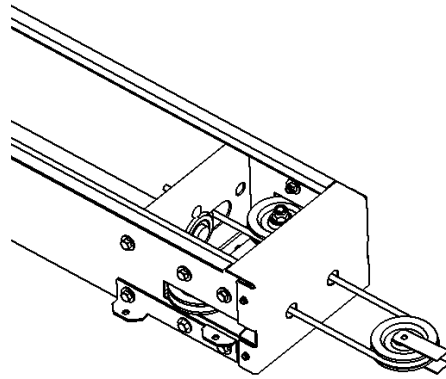

Figure 16
9. If mounting machine horizontally in order to pull cables straight from end of machine, remove (2) plastic plugs found at top of machine to access pre-punch holes for routing cables. Loop cable around bearing supported pulley to ensure even load distribution on load block. Use 3 ½" diameter V-groove pulley to maintain proper cable spacing. **(Figure 16)**